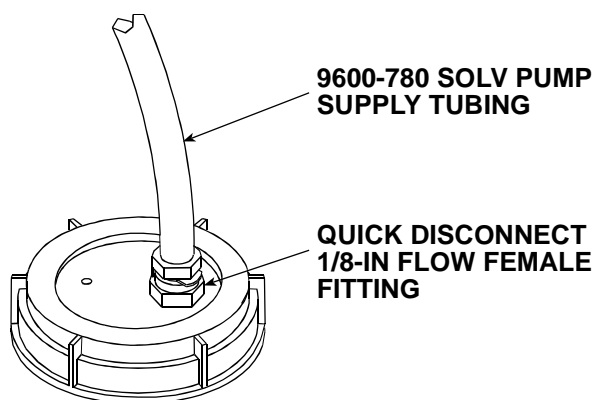

Figure 11 Solvent Cap Assembly (5700-736)
- 5700-736 solvent cap assembly (*Fig. 11*)
3. Connect the male fitting of the tubing assembly to the female fitting in the SOLVENT CAP assembly (*Fig. 11*).